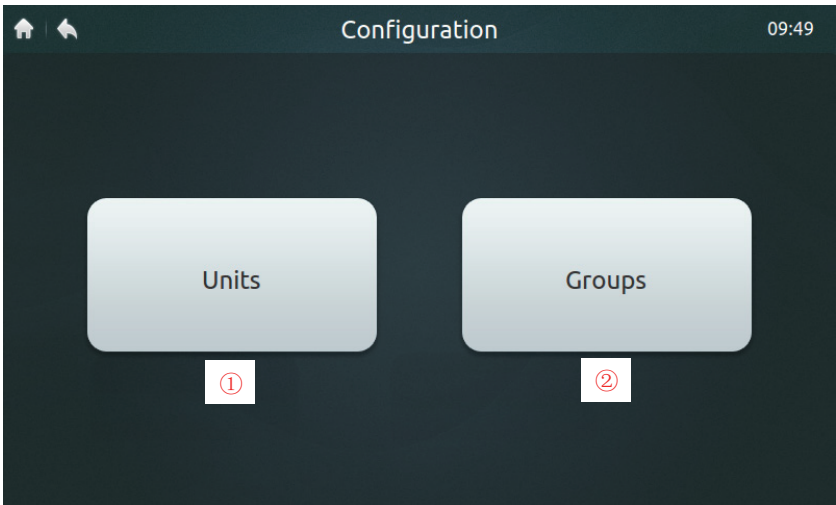
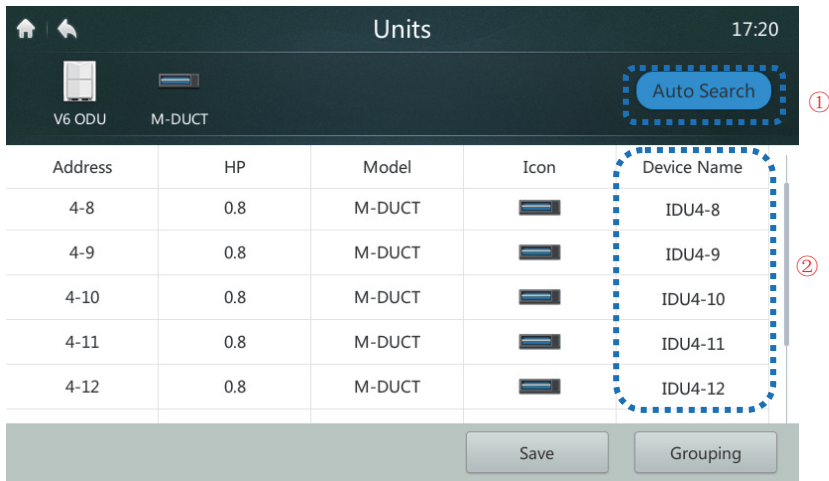
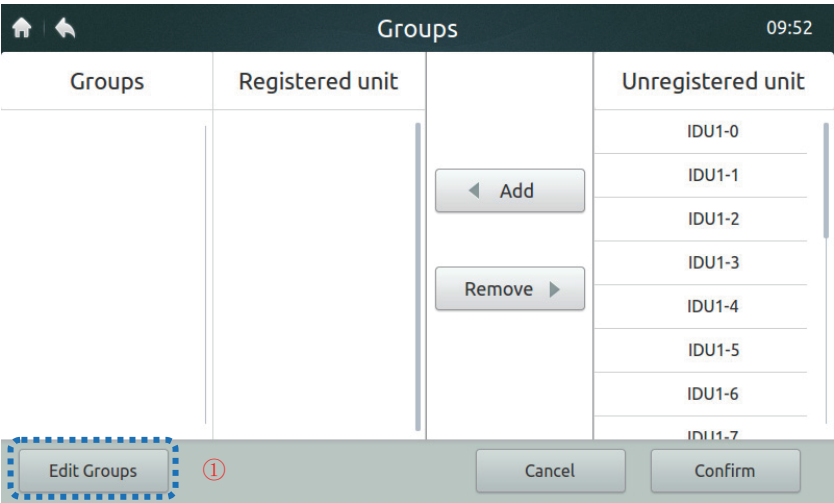
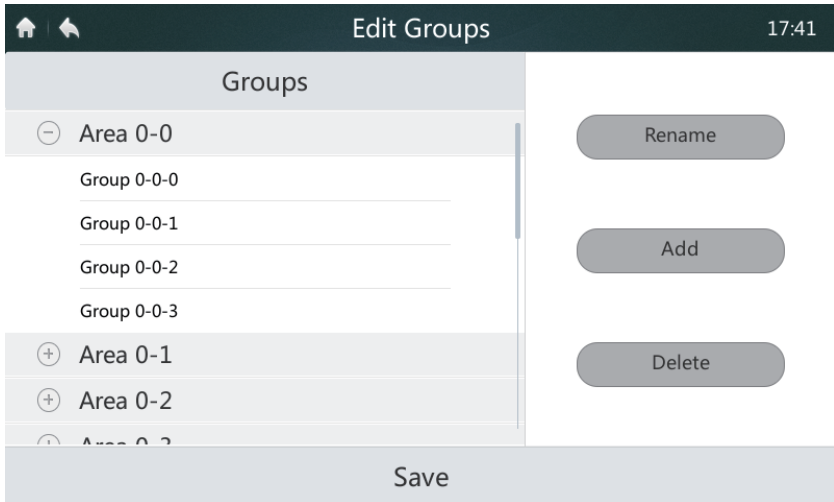

Figure 35 Homepage of Installation interface
Figure 36 Device installation page
Figure 38 Homepage 1 of Group View page
Figure 39 Editing a group
1. Tap the "Units" button, as shown in Figure 35, to enter the interface, as shown in Figure 36.
2. Tap the "Auto Search" button marked "1" in Figure 36. The connected device will be displayed on the interface. The table displays the IDU HP, IDU type (the correct type can be displayed correctly for second-gen IDUs only. Other types are first-gen IDUs), type icon (the correct type can be displayed correctly for the second-gen IDUs only. The Four-way Cassette icon is displayed for other units), and device name.
3. The default device name is "IDU + ODU network address-IDU address". The user can rename a device. Tap the area marked "2" in Figure 36 to display the input keyboard in the lower part of the screen, as shown below. Edit the device name of the corresponding address, and tap "Confirm".
1. Tap the "Groups" button marked "2" in Figure 35 to access the group view page in Figure 38. Figure 38 shows the interface where no groups are created.
2. First create a group. Tap the **"Edit Groups"** button marked "1" in Figure 38 to access the interface shown in Figure 39.
3. Groups can be classified into two levels (e.g.: level 1 - Area; level 2 - Group). Up to 10 groups can be created at level 1. Up to 5 groups can be created at level 2. Tap the **"Add"** button, as shown in Figure 38, to add the first level group by default. Tap to select the first level Area. Tap the **"Add"** button to add the second level group. To delete a group, select this group, and tap **"Delete"**.
4. Select a group and tap **"Rename"**, as shown in Figure 39, to edit the selected group name.
5. Tap the **"Save"** button, as shown in the lower part of Figure 39, to save the edited information.